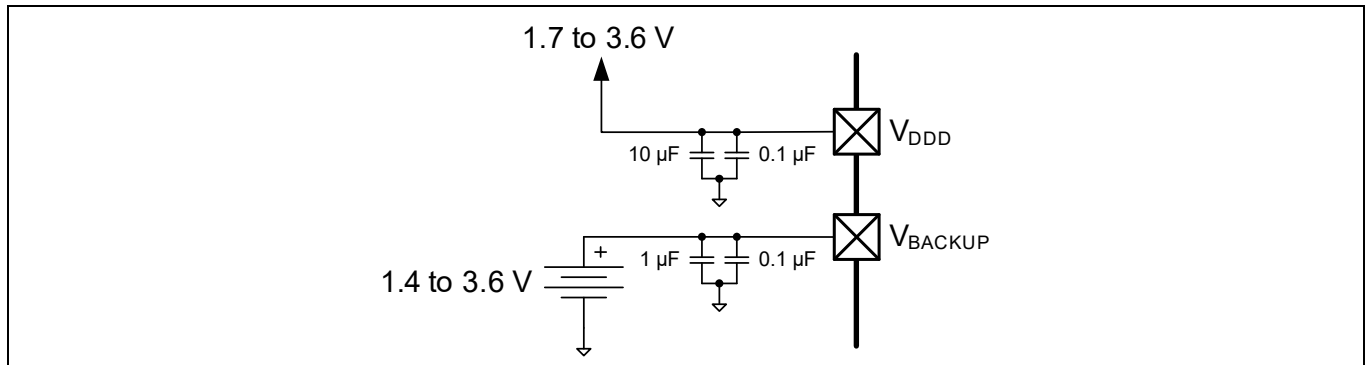

Figure 13 Separate Battery connection to V_{BACKUP}
- V_{BACKUP} : the supply for the backup domain, which includes the 32-kHz WCO and the RTC. It can be a separate supply as low as 1.4 V, for battery or supercapacitor backup, as **Figure 13** shows. otherwise it is connected to V_{DDD} . It powers I/O port 0.